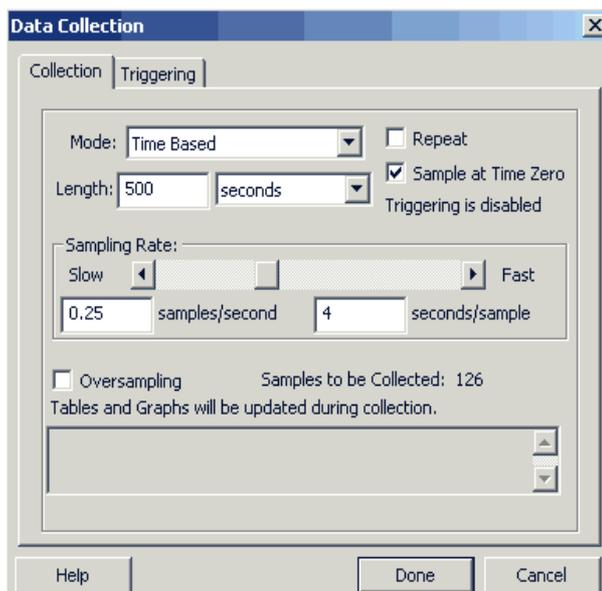

Figure 7. Setting the sampling time interval and total experiment length.
3. Click Data Collection . Choose a Length and seconds per sample as suggested in the lab writeup, Figure 7. You will probably need to change these settings to fit your own particular runs after your first trial data set. If you don't have a good idea which values to set, try a Length of 500 sec and 4 seconds per sample as a starting point. Click Done. You can extend a run, during acquisition, by pulling down the Experiment menu and choosing Extend Collection.